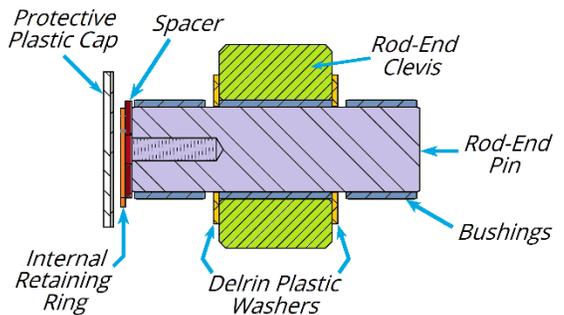

Figure 11: Brake rod end pin details
- i. **REMOVE** cylinder rod-end pins (See fig. 11 and ATTACHMENT 1 brake details):